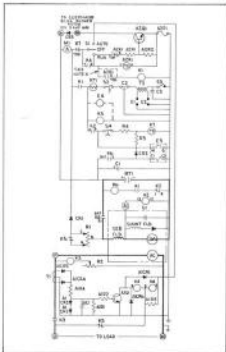

FIGURE 5-11A. MCKX CONTROL-O-MATIC SCHEMATIC (SPEC C)
- b. If necessary to test engine cranking circuit, temporarily bypass bilge-blower control relay A/K' by moving lead at terminal 1 on A/K' to terminal 3. Figure 5-11A. This lead comes from S' run terminal. If unit cranks with the bilge-blower control disabled, the problem is in the bilge-blower control circuit.